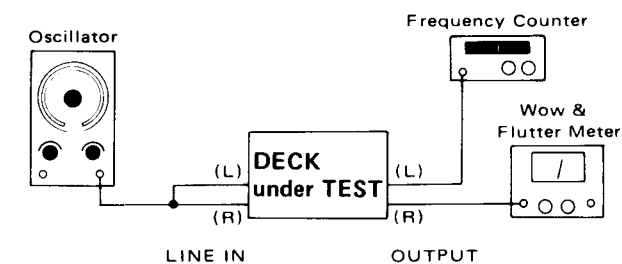

Fig. 4-1
1. Connect a frequency counter to the deck as shown in Fig. 4-1.
1. Connect a wow-and-flutter meter to the deck as shown in Fig. 4-1.